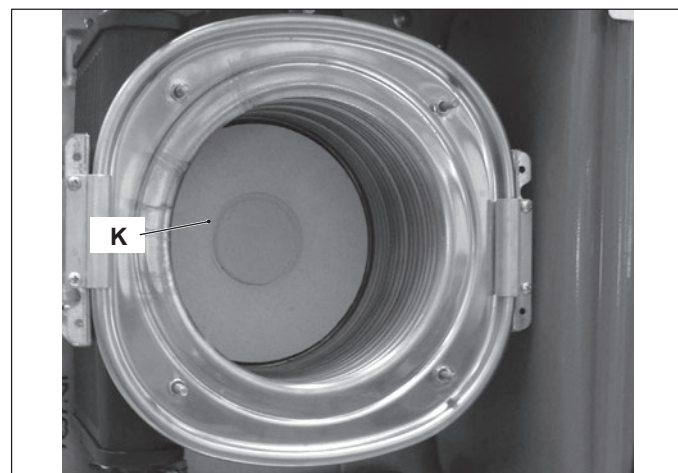

Figure 18.8
- 2 Remove the insulation "K" by pulling it towards the boiler front (Hung it with a screwdriver tip) (Figure 18.8).